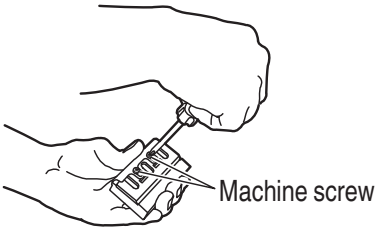

Fig. 11
- (4) As shown in **Fig. 11, 12**, press the turned surface of set plate (A) to the wall surface b while adjusting the carbide blade edge to the wall surface a of the set gauge. Then, tighten them with the 2 screws.
- (1) Loosen the 2 screws holding on the blade and set plate (A).
- (2) Press the turned surface of set plate (A) to the wall surface b while adjusting the blade edge to the wall surface a of the set gauge. Then, tighten them with the 2 screws. (**Fig. 11, 12**)